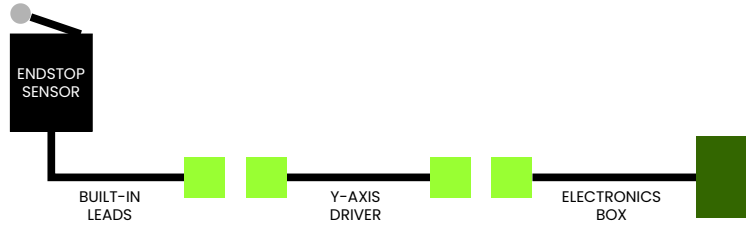

Figure 46: Cabling stages for the X-Axis endstop sensor.
The cabling for the X-Axis sensors consists of providing it with power from the electronics board to the sensor. The cabling should be done in such a way that its parts are located in the different major components. Figure 46 presents the cabling stages for the Y-Axis sensor. A total of three (2) 3-pin connectors and 2150 millimeters of 3-phases cable are needed in order to execute the X-Axis sensor cabling. Table 6 presents the procedure for cabling the X-Axis sensors.